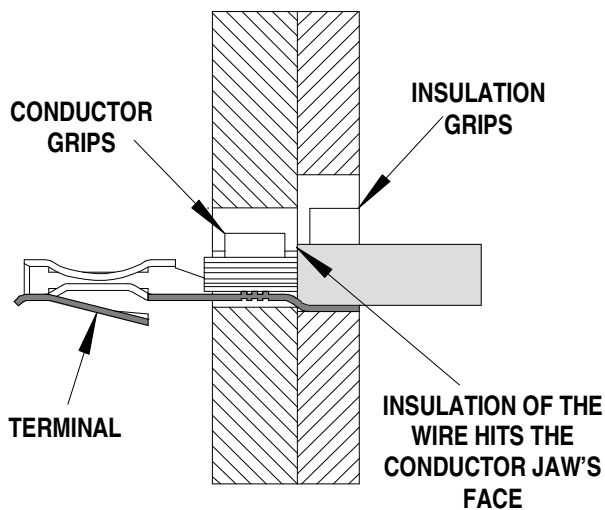

Figure 2
3. Insert the properly stripped wire in through the insulation tabs or grips until the insulation hits the conductor jaw face. See Figure 2.